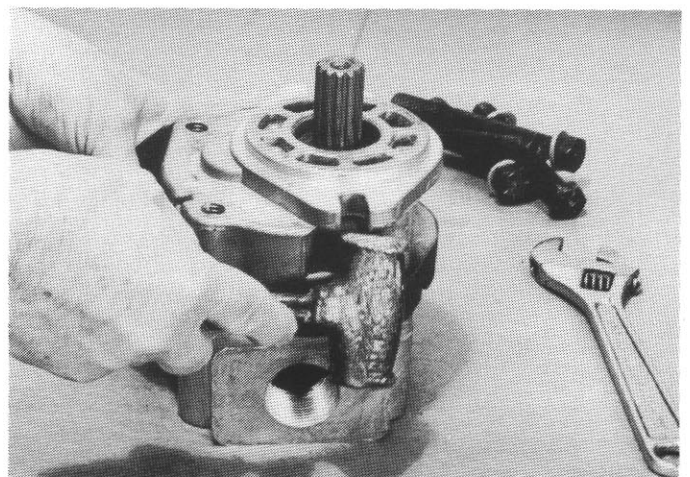

Fig. 1
4. Loosen and remove the four capscrews from the rear of the pump. Hold the gear plate and valve body together and tap the flange plate with a soft hammer to loosen (Fig. 1)